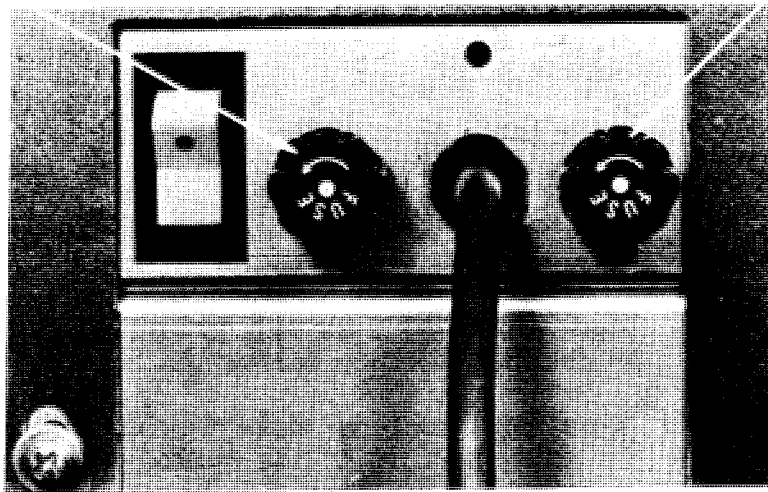

Figure 1.5 Back of Printer
4. Press the ON/OFF rocker switch at the rear of the Printer (see Figure 1.5). When the Printer is on, the power lamp (left indicator of Control Panel) is lit.
Two fuses (see Figure 1.5) are located on the rear panel of the Line Printer. One fuse monitors main line current while the second fuse controls current to the carriage motor. A fuse can be changed by twisting the bad fuse out of the socket and replacing it with a new fuse. The Printer should be turned OFF when changing a fuse.